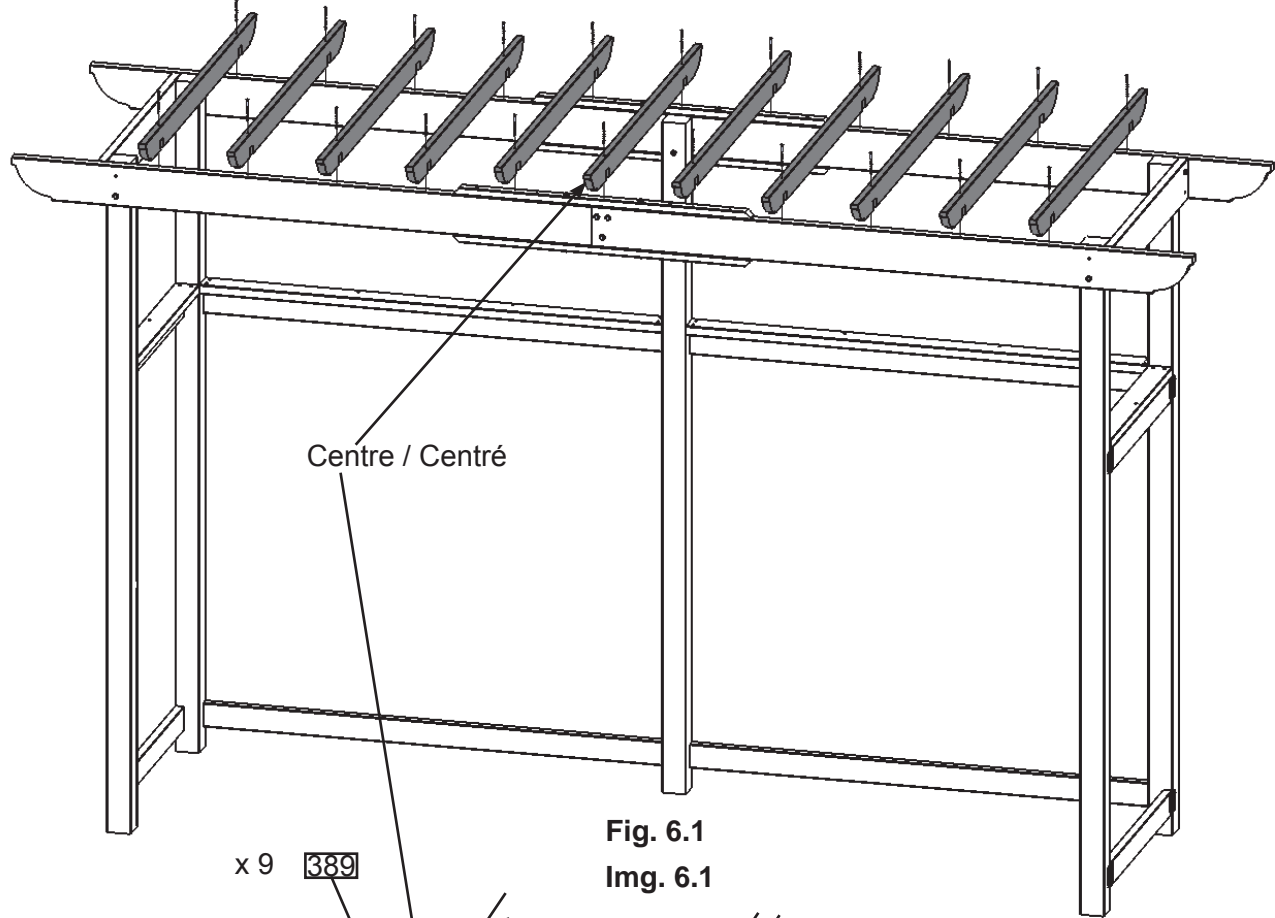

Fig. 6.1
- A: Attach one (389) in the centre as shown in fig. 6.1 & 6.2. /
- B: Allow for a 11" or 28cm gap between each (389) Trellis as shown in fig. 6.1 & 6.2. /